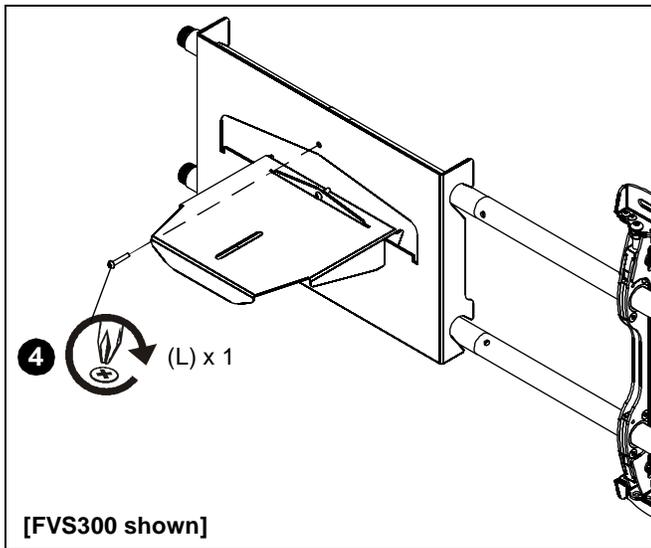

Figure 4
5. Adjust location of shelf and install one 10-24 x 1" Phillips pan head screw (L) to tighten shelf against rails. (See Figure 4)